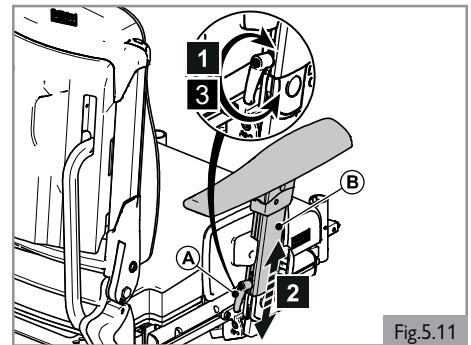
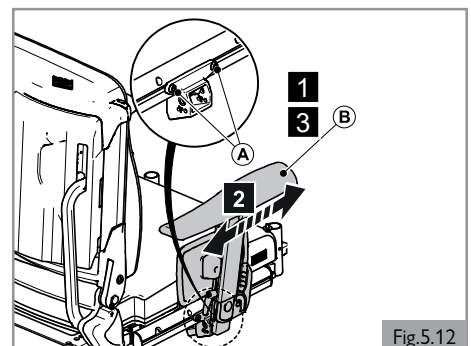

Fig.5.11
Fig.5.12
**Armrest height (Fig. 5.11)**
1. Loosen (A) by one turn.
2. Adjust (B) to the desired position.
3. Tighten (A). See section 9 for specified torque values.
**Armrest depth (Fig. 5.12)**